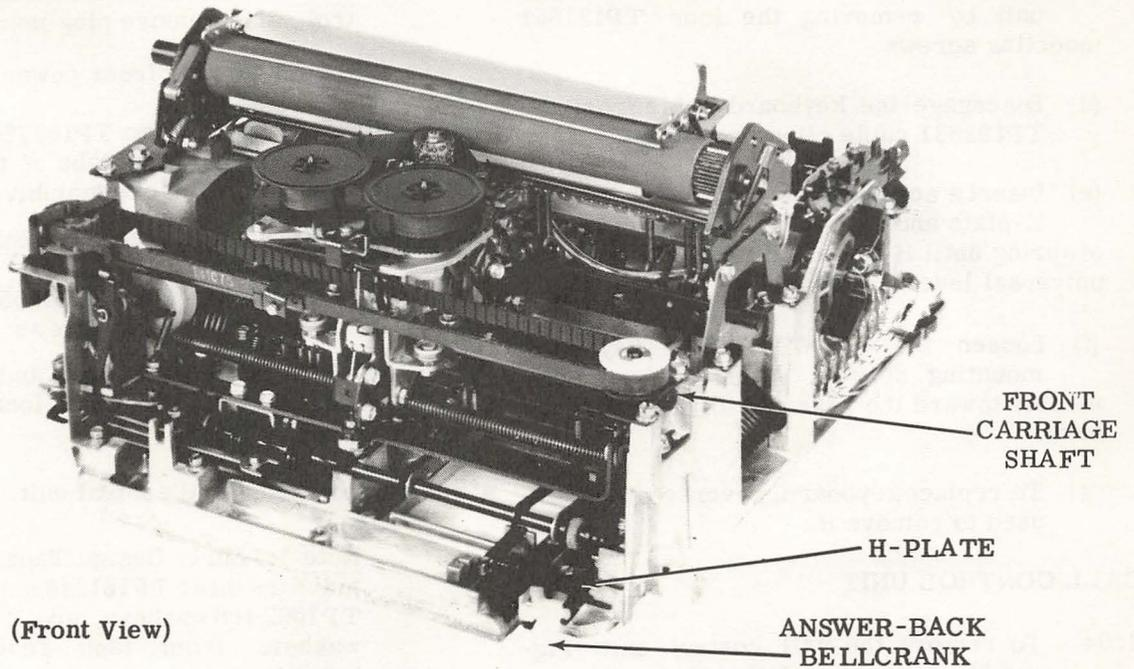

Figure 2 - Typing Unit
2.02 To remove typing unit (Figure 2), proceed as follows.